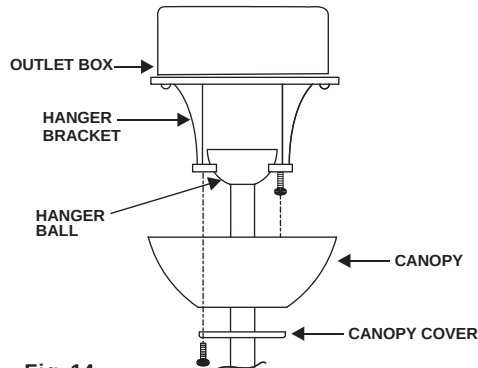

Fig. 14
Step 2. Slide the canopy up towards the hanger bracket and place the key hole on the canopy over the screw on the hanger bracket, turn canopy until it locks in place at the narrow section of the key holes. (Fig. 14)